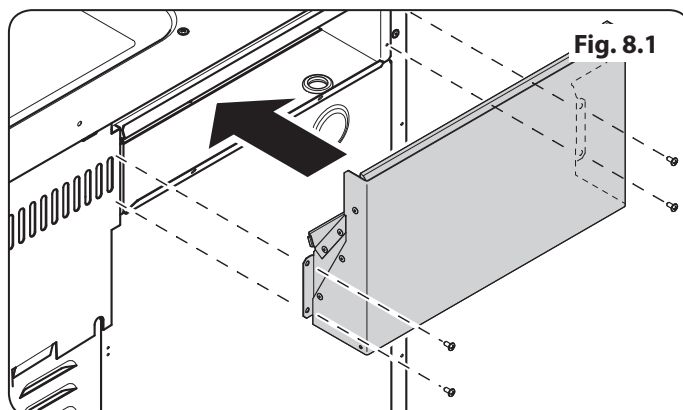

Fig. 8.2
2. Present the removable flue up to grill flue opening. Make sure that the bottom flange of the removable flue fits inside the fixed flue, secure in place with the four screws (**Fig. 8.1** and **Fig. 8.2**).
3. Once the flue is fitted, using the two screws supplied, secure the bottom of the flue (**Fig. 8.2**).